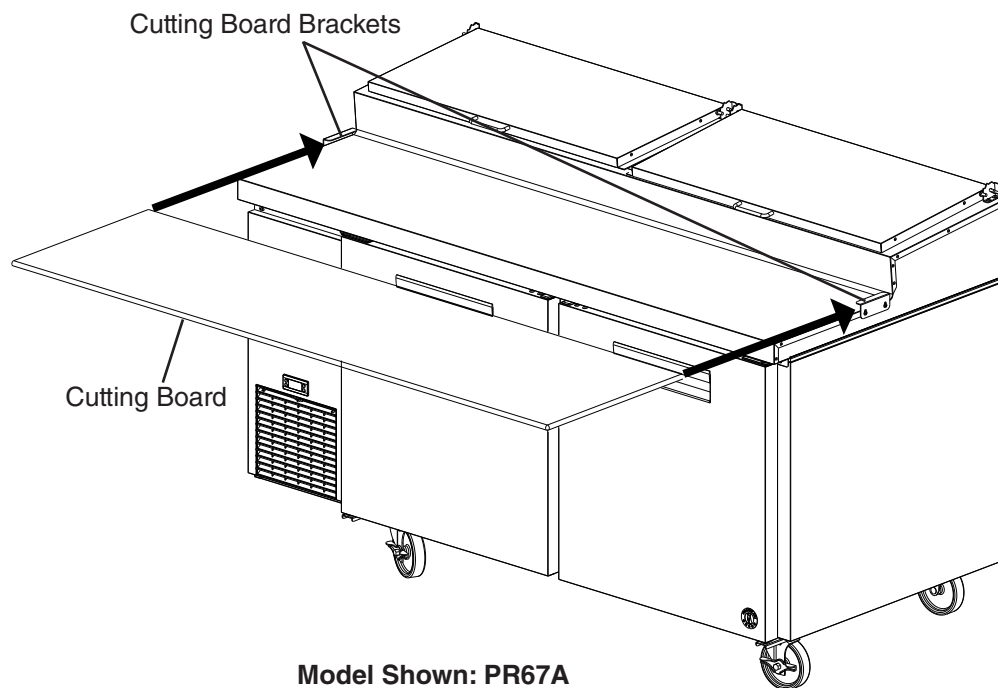

Fig. 6
- 1) Loosen, but do not remove, the screws securing the cutting board brackets. See Fig. 6.